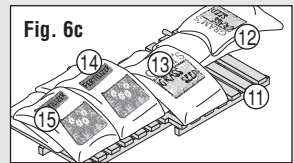

Fig. 6c
- Glue Sacks (12, 13, 14) and (15) to Double Pallet (11) (Fig. 6c).